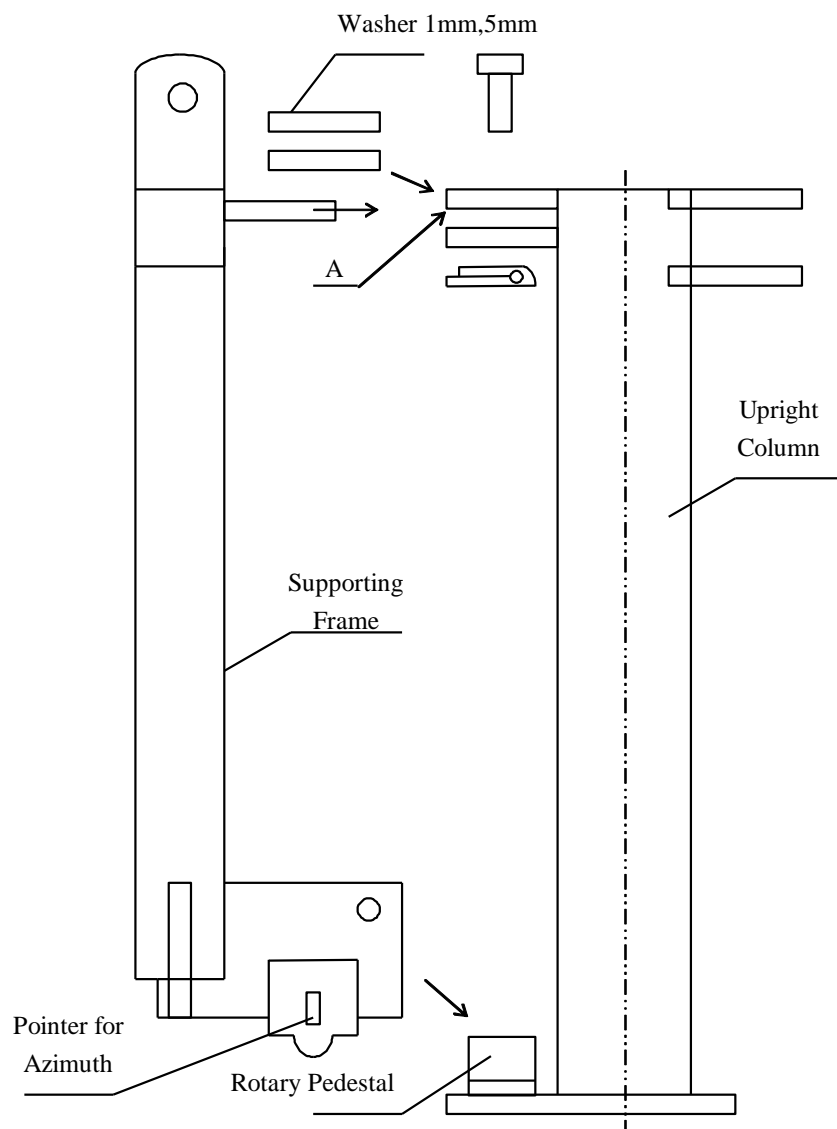

Figure 5. Installation of Supporting Frame
rotation of supporting frame is found with occurrence of detention, the operator can knock the rotary pedestal for making the supporting frame rotates agilely; then fasten all screw bolts $M16 \times 35$ on the rotary pedestal. (shown in Figure 5.)
3.1 Azimuth Adjustment of Antenna (shown in Figure 5.)